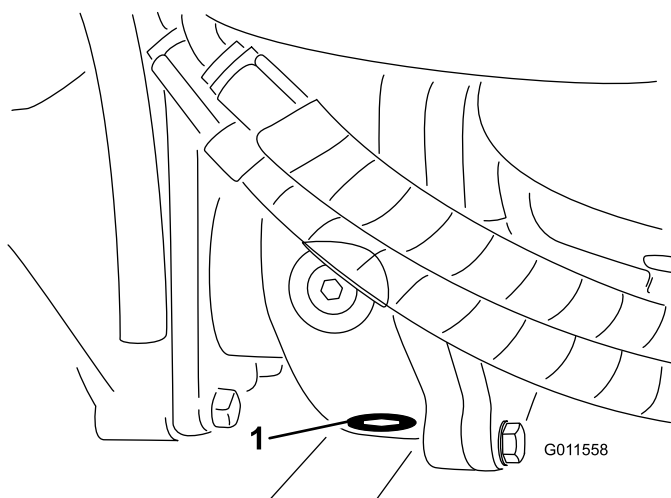

Figure 78
5. Clean the area around the drain plug at the bottom of the gearbox (Figure 78).